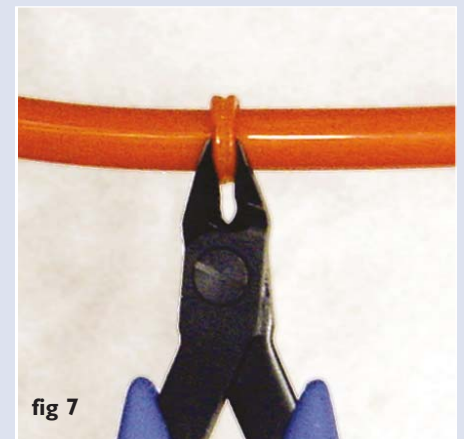

fig 7
- 10) Use the Flash Cutters included to trim off the excess material around the join. (fig 7)